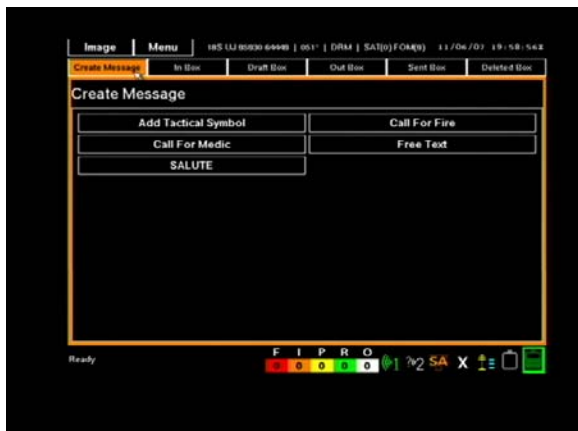

Figure 9. Create a Message Screen.
- c. Top mouse click on "Create Message" (Figure 9).